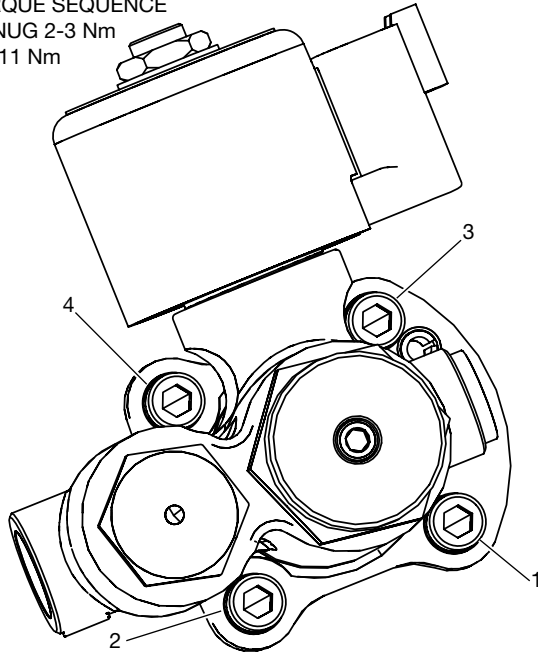

Figure 37 – Supply Circuit Torque Sequence
6. While holding the supply circuit valve assembly, install the four (4) bolts and hand tighten.
7. Torque the bolts using the sequence and torques shown in Figure 37.
2. While holding the return valve assembly, install the four (4) bolts and hand tighten.
3. Torque the bolts using the sequence and torques shown in Figure 37.